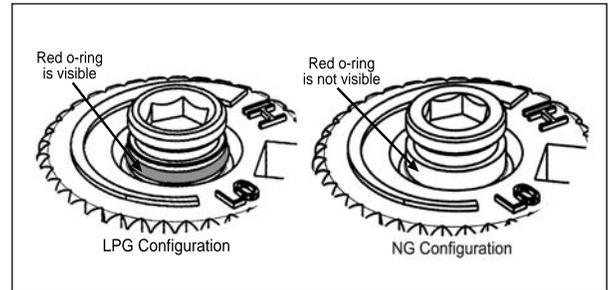

Figure 18: O-ring on Valve Screw
- d) If converting to NG ensure the red o-ring is not visible (see Figure 18).